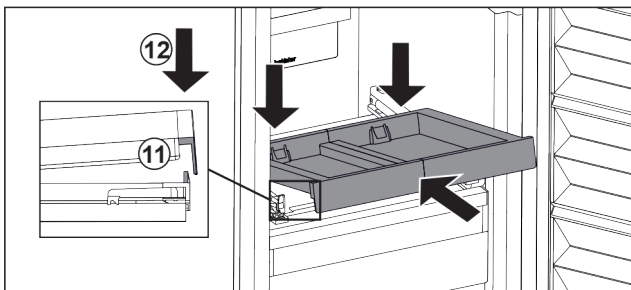

Fig. 33
- ▶ Slide it in at an angle. Make sure that the stop is behind the lug on both sides. Fig. 33 (11)
- ▶ Lower the pull-out board at the front. Fig. 33 (12)